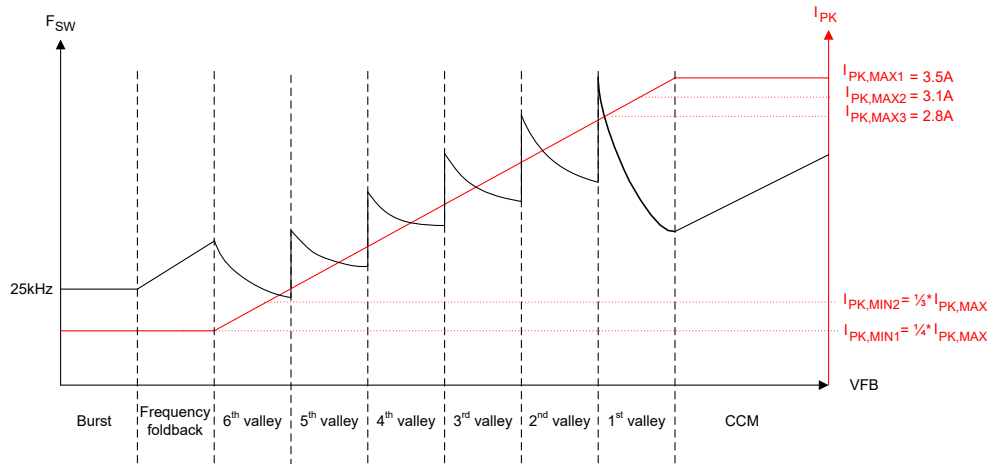

図 6-4. UCG28826 Control Law
Connect the feedback (FB) pin to the collector of the optocoupler for secondary side regulation. This pin has an internal 60k Ω pull up for optocoupler bias. The instantaneous voltage on this pin determines the switching frequency, peak current and mode of operation (burst, foldback, valley switching or CCM) as per the control law in Figure 6-4 to deliver the required output power. Connect a 100pF or 220pF capacitor from this pin to ground for high frequency noise filtering.
Hence, in UCG28826, in every cycle, the primary GaN HEMT turns off after reaching the peak current threshold and turns on next at a target valley in magnetizing ring during discontinuous mode (DCM) operation. The instantaneous primary peak current and target valley is determined by the feedback (FB) pin voltage as per the control law of 図 6-4. Connect the FB pin to the optocoupler collector. The negative feedback loop sets FB pin voltage to the required value to support a certain V_{OUT} and P_{OUT} on the output. The device can operate in one of the four modes of operation: burst, frequency foldback, valley switching or continuous conduction mode, as described later.
In the control law shown in 図 6-4, the UCG28826 offers flexibility to select a max peak current $I_{PK,MAX}$ to optimize for the switching frequency at rated load and transformer size. For each $I_{PK,MAX}$ setting, a scaling ratio of 1/3rd or 1/4th is available for the minimum peak current $I_{PK,MIN}$. This $I_{PK,MIN}$ value determines the switching frequency and losses in light load conditions when the flyback converter is operating in frequency foldback or burst modes. For all values of $I_{PK,MAX}$ and $I_{PK,MIN}$, the slope of control law peak current vs feedback voltage remains the same, as per 式 1. 表 6-5 shows the threshold voltages for transition between different modes and between valleys for different peak current settings of 表 6-2.
The UCG28826 is designed to operate with soft switching and primary FET turn-on at a valley to reduce switching losses. The converter operates in valley switching except during peak load transients during which control can transition to CCM mode (if enabled using CDX pin). During valley switching mode, the target valley and peak current threshold are governed by the control law of 図 6-4 and 式 1:
As shown in 図 6-4, once the boundary of 1st valley QR operation is reached with increasing output power, the control clamps I_{PK} to the maximum selected value $I_{PK,MAX}$, and begins to reduce the secondary conduction time T_{OFF} in CCM mode. This reduction in T_{OFF} is proportional to increase in FB pin voltage, till 50% of the QR mode off-time to reach 1.5x the QR mode output power delivery capability. Care needs to be taken to use a primary magnetizing inductance L_M large enough to not hit the frequency clamp and avoid any subharmonic oscillations which could increase output voltage ripple, depending on application requirements. For long duration output power transients, the converter returns to 1st valley QR mode after expiry of the 4ms CCM timer and continues to deliver the largest possible output power at the transition point of QR and CCM modes, while operating in QR mode. The device offers flexibility to enable/disable CCM mode operation with a resistor from the CDX pin to GND as per values in 表 6-4.
When turned on, a flyback converter starts with 0V output voltage. This can cause the feedback voltage FB to clamp to its max. value and trigger overload protections. To prevent this from happening, the UCG28826 starts in soft start mode. During this time, an internal FB voltage ramp increases in eight steps from 0V to max. value in 4ms. The max. value of internal FB ramp is at FB pin voltage equivalent of 80% of $I_{PK,MAX}$ setting and changes for different resistor settings on IPK pin. During this time, the smaller of this internal ramp voltage and actual FB pin voltage is used to determine the device operating point in the control law of Figure 6-4. Once the internal FB ramp voltage reaches the max. value is when control is transferred to FB pin voltage for output regulation. Soft start sequence is executed every time at start up or when recovering from fault (auto-retry or latch) and brown-out conditions. The minimum frequency clamp is changed to 10kHz only during soft start (which is otherwise at 25kHz during normal operation). This helps at startup when valleys are missing and the control law forces turn-on of primary GaN HEMT every 10 μ s from the last turn-on edge (if valleys are missing), to charge the output capacitor.